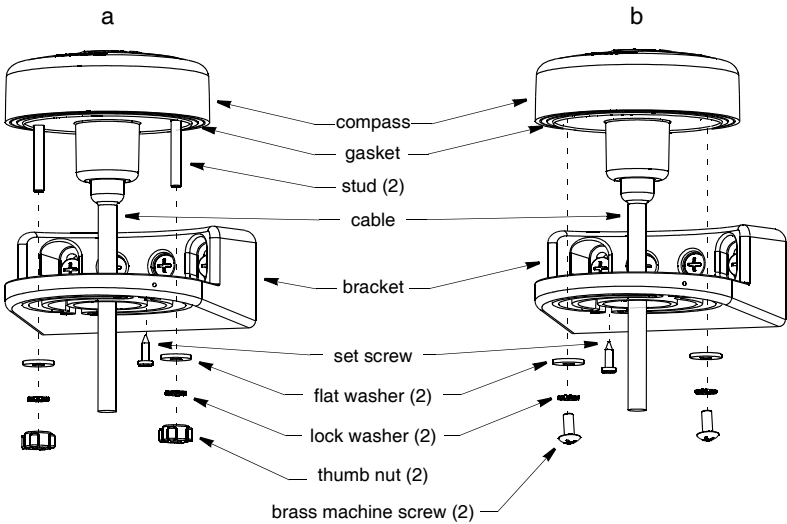

Figure 3. Installing the compass in the mounting bracket
1. Feed the cable through the mounting bracket (see Figure 3).